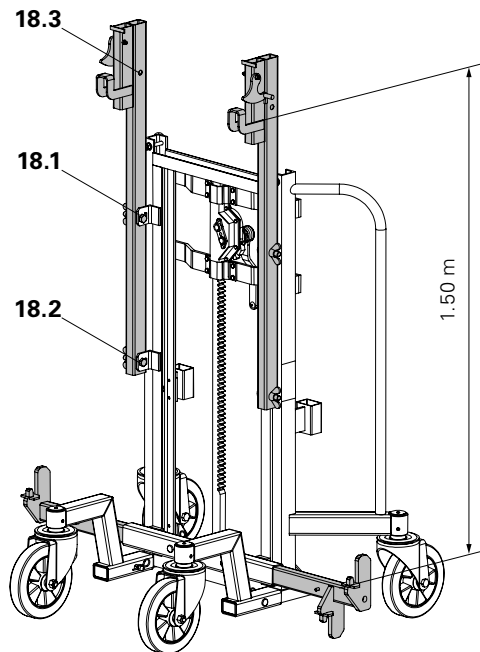

Fig. B1.05
1. Mount the top connectors of the Trolley with Winch at the respective middle (18.1) and bottom (18.2) holes. The top hole (18.3) remains free. (Fig. B1.05)